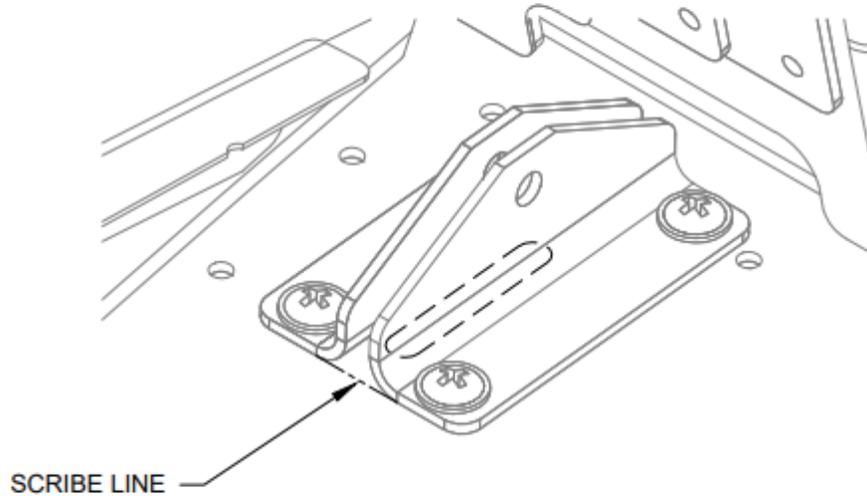

FIGURE 7: SCRIBE LINE
Step 7: Scribe line at the Aft end of Latch Bellcrank Angles as shown in Figure 7.